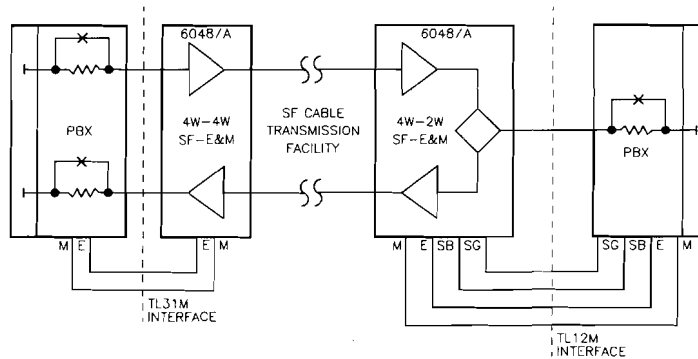

figure 2. Typical short-haul tie-trunk circuit using 6048/A modules
2.02 The 6048/A is well suited to a variety of 4wire-to-4wire and 4wire-to-2wire SF-to-E&M applications, both network-terminating and otherwise. Figures 2 through 4 show three typical network-terminating tie-trunk applications of the 6048/A.